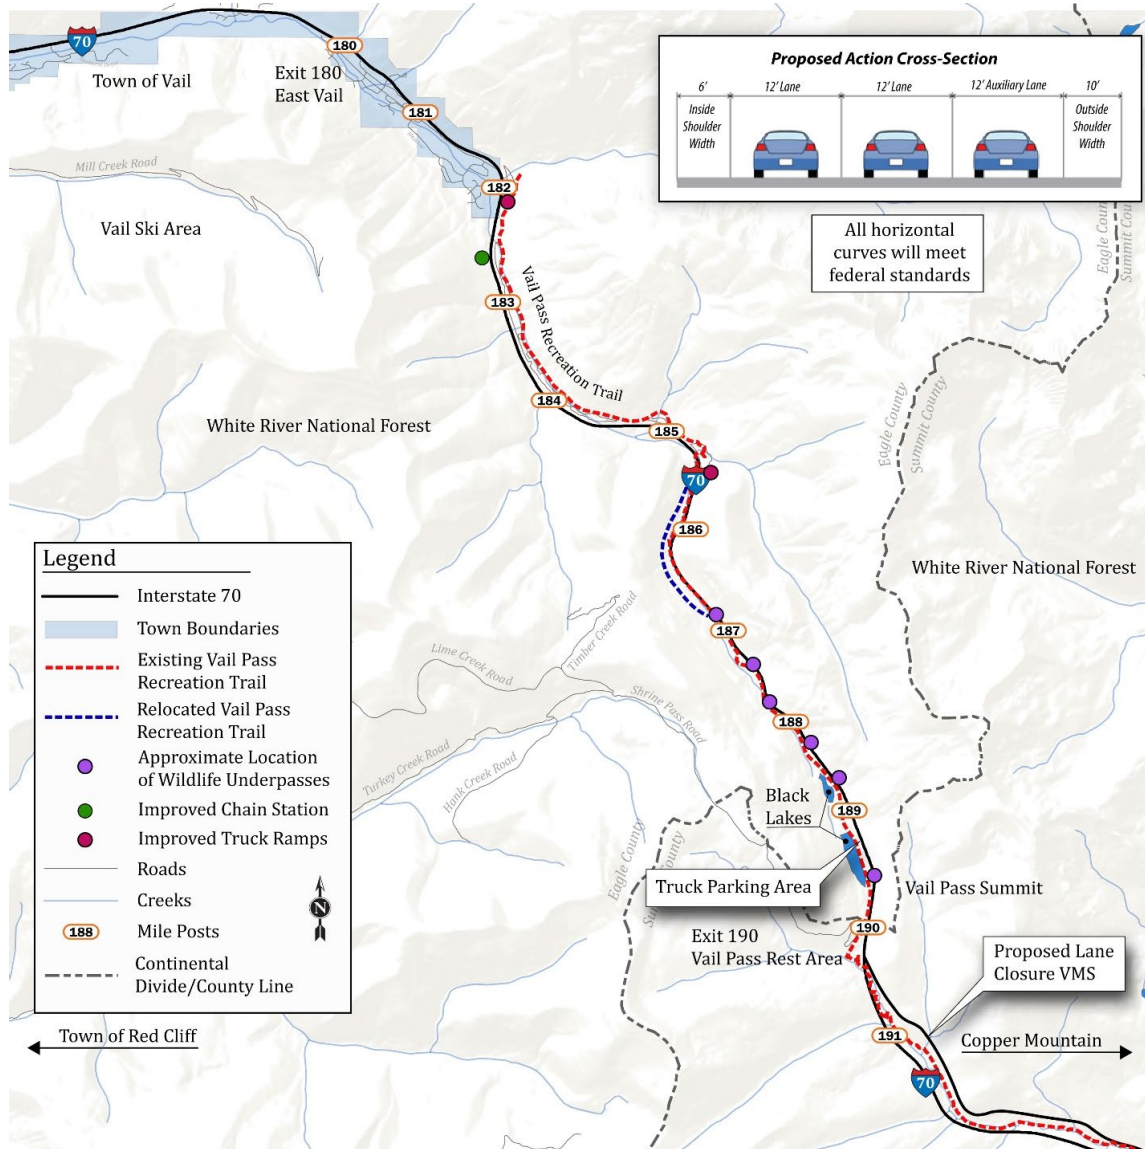

Figure 1.1. West Vail Pass Auxiliary Lanes Proposed Action Alternative
The West Vail Pass Auxiliary Lane Environmental Assessment (EA) (FHWA and CDOT, 2020) (**Figure 1.1**) was conducted to evaluate proposed improvements along I-70. The Proposed Action of the West Vail Pass I-70 Auxiliary Lanes Project, as outlined in the EA, includes the addition of a 12-foot auxiliary lane, both eastbound (EB) and westbound (WB), for 10 miles from approximately the East Vail exit (mile post [MP] 180) to the Vail Pass Rest Area exit (MP 190). All existing curves will be modified as needed to meet current federal design standards. Other additional elements of the proposed action include the following: